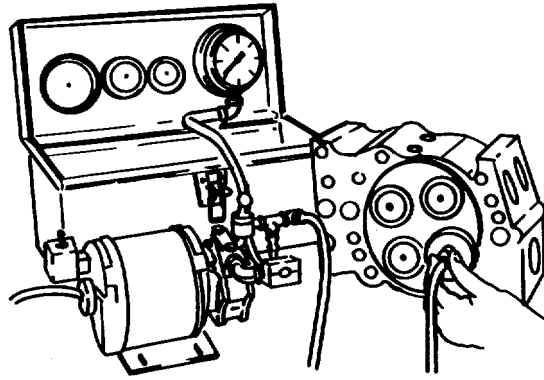

FIGURE 4-22. Vacuum Test.
- (27) Vacuum Test cylinder head.
- (a) Install vacuum tester to valve seating area (FIG. 4-22).